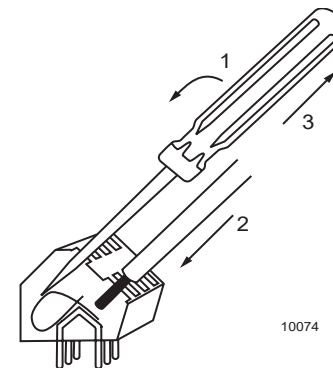

Figure 5. Cage clamp terminals (standard). Use 0.5 to 2.5 mm² (AWG 20 to 12) solid wires or stranded wires, depending on local requirements.
- Wire gauges see Fig. 5 and 6